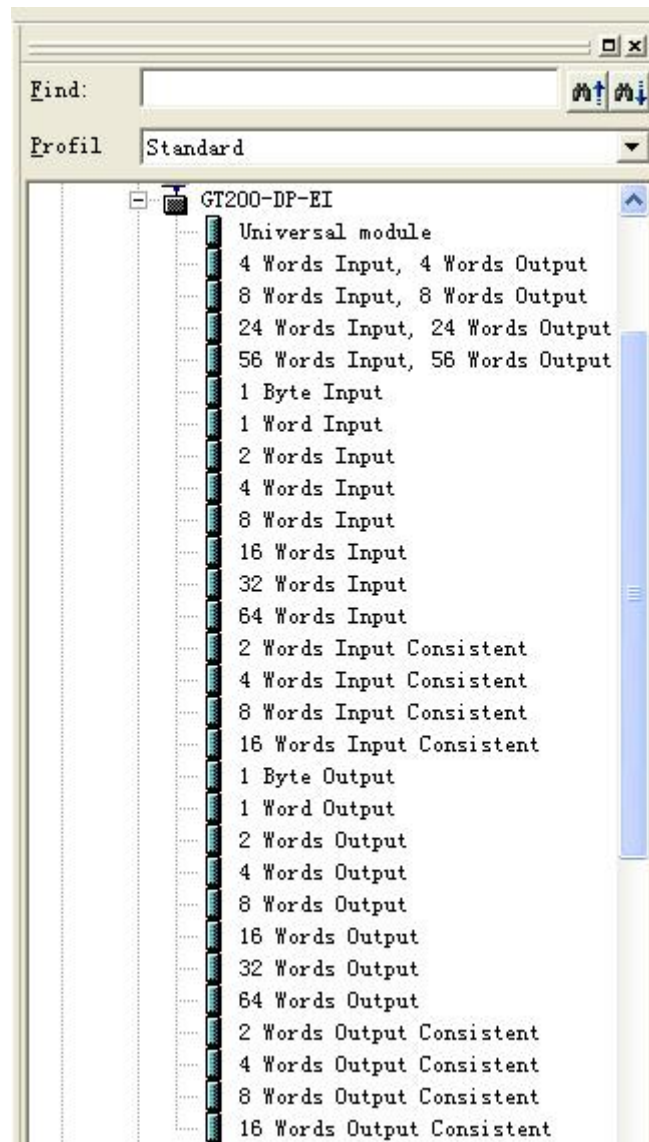

Figure 6
6. Here you can find your equipment in the right side of the window. Figure 6